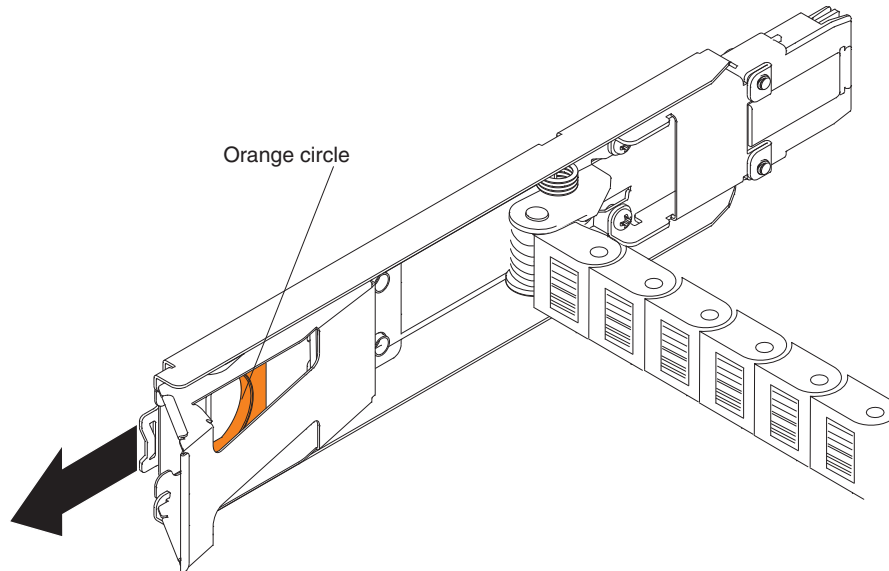

Figure 65. Vertical mounting bracket that connects to the midplane
- a. Disconnect the right cable chain mounting bracket from the midplane. Hold the orange handle (See Figure 65 on page 118) and pull the mounting bracket out of the storage expansion enclosure. If necessary, use a flashlight to locate the orange circle.